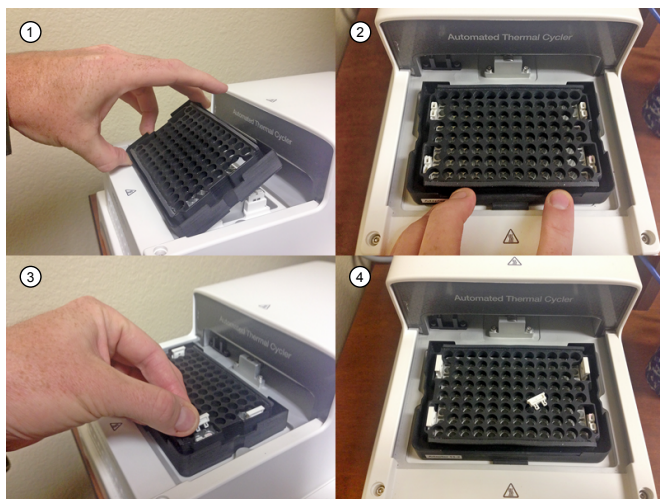

Figure 6 Installation of semi-skirted plate adaptors and ejector buttons
- ① Remove half skirted adaptor, if any. place full skirted adaptor by tilting an angle allowing the front to insert under the frame.
- ② Push the two tabs allowing it to be inserted into the frame.
- ③ Ensure the full-skirted plate adaptor sits freely under the frame.
- ④ Full-skirted plate adaptor is installed.
- To install the semi-skirted plate adaptor, follow the instructions in Figure 6.